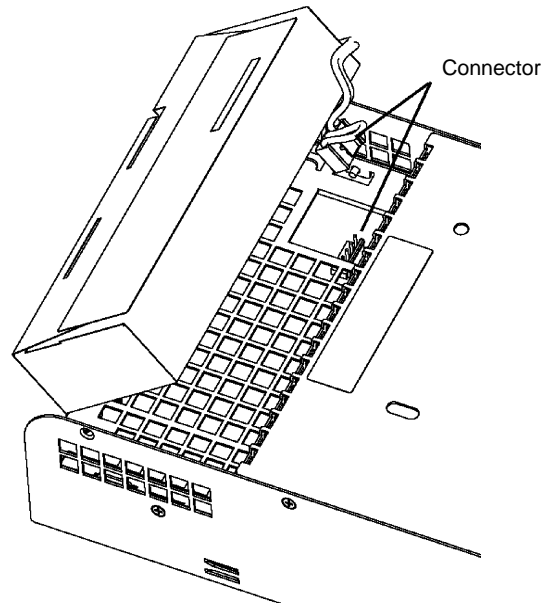

Figure 3-22. Removing the Battery Backup Unit
8. Disconnect the battery backup cable from the power supply and remove the battery backup unit. See Figure 3-22.